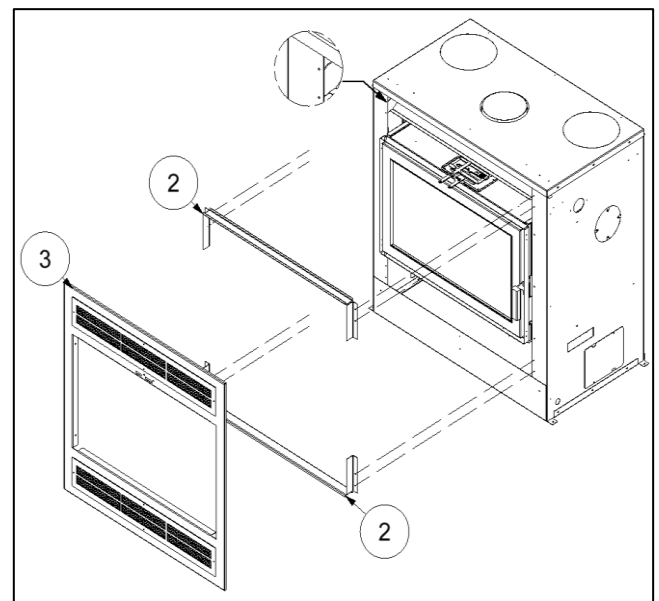

Figure 3-11: Top and Bottom Front Support Bracket Installation for Traditional Surround
2. Align the bottom front support bracket (Item 2) to the intake opening and fasten it in place (Figure 3-11).
3. Align the top front support bracket (Item 2) to the outtake opening and fasten it in place (Figure 3-11).